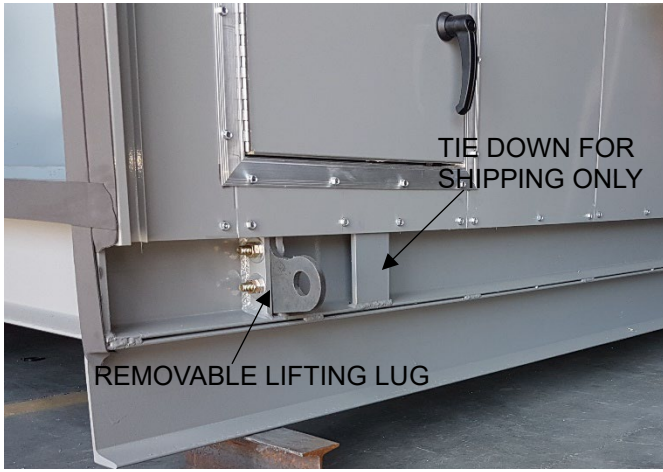

Figure 1 Lifting Lug
- Never attempt to lift the unit using tie-downs. Tie-downs are for securing the unit to the truck only. See Fig. 1